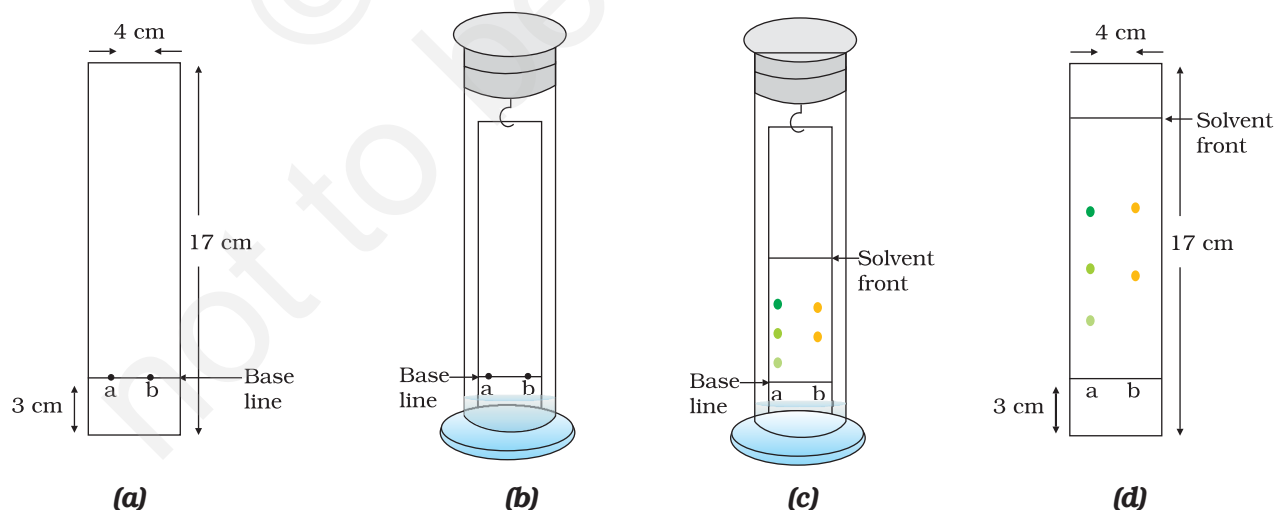

Fig. 5.1 : (a) Marked paper; (b) Dipping the filter paper in the solvent; (c) Developing chromatogram; and (d) Developed chromatogram
- (iii) Procure a Whatman filter paper No.1 of size 4 cm × 17 cm and mark a line at a distance of 3 cm from one of the ends of the paper with the help of a pencil [Fig. 5.1(a)].
- (iv) Using a finely drawn capillary, put one spot 'a' for the extract of leaves and one spot 'b' for the extract of flowers. Allow these spots to dry as shown in Fig. 5.1 (a).
- (v) Hang the filter paper in a jar containing 20 mL mixture of petroleum ether (boiling range 60–80°C) and chloroform containing 19 mL petroleum ether and 1 mL chloroform or a mixture of petroleum ether (boiling range 60–80°C) and acetone in the ratio 9:1 (18 mL petroleum ether + 2 mL acetone) so that the solvent does not touch the reference line as given in Fig. 5.1 (b).
- (vi) Keep this jar as such till the mobile phase (solvent) rises up to 2/3 of the length of the paper [Fig. 5.1(c)].
- (viii) Measure the distance travelled by the solvent front and the centre of different spots with respect to the reference line as given in Fig. 5.1 (d).